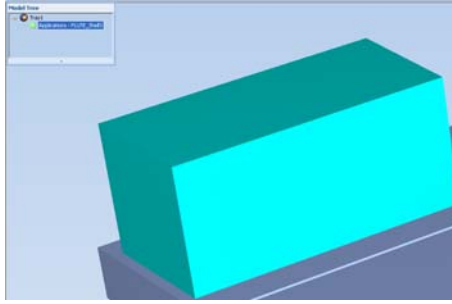

Figure 5-33: Model displayed with bounding box
- With a *Bounding Box* (see figure 5-33 on page 29)